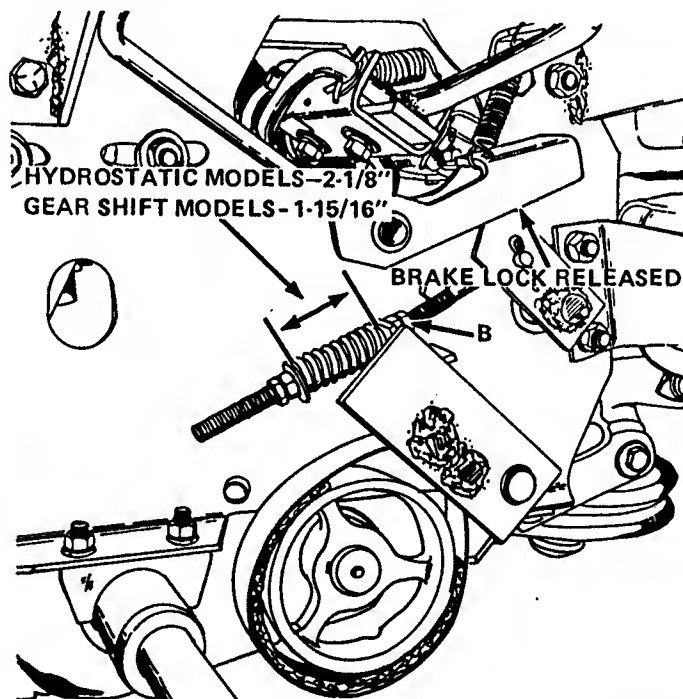

Figure 27
4. Tighten nuts B, Figure 27, until compression spring measures as follows: